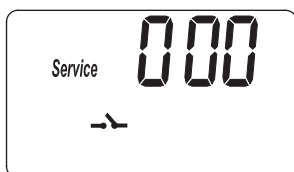
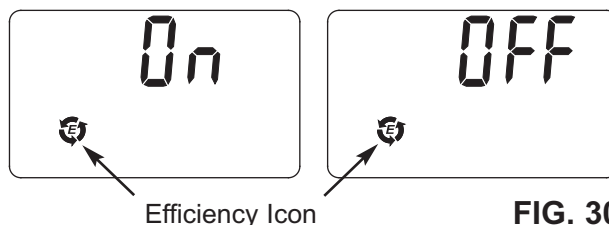
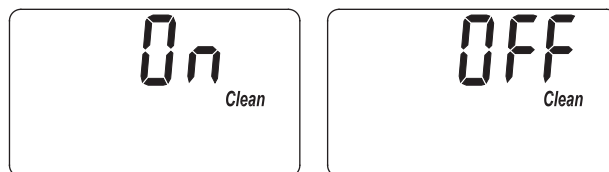

FIG. 29
FIG. 30
FIG. 31
1. Press and hold the PROGRAM button until the screen in Figure 29 is displayed. Once in this display, press the PROGRAM button once and one of the two displays in Figure 30 is shown.
1. Press and hold the PROGRAM button until the screen in Figure 29 is displayed. Once in this display, press the PROGRAM button twice and one of the two displays in Figure 31 is shown.